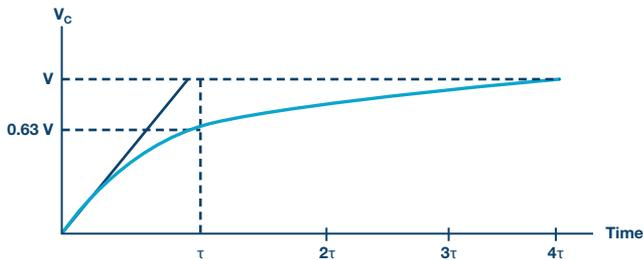
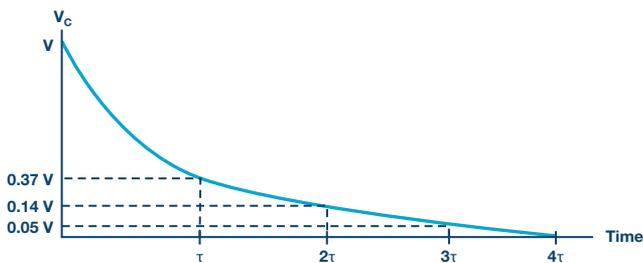

Figure 3. Capacitor charging for series RC circuit to a step input with time axis normalized by τ .
Figure 4. Capacitor discharging for series RC circuit.
The response curve increases and is shown in Figure 3.
Where V_0 is the initial voltage stored in capacitor at $t = 0$, and $RC = \tau$ is time constant. The response curve is a decaying exponential as shown in Figure 4.
- b. Pulse width = 5τ : Set the frequency such that the pulse width = 5τ (this should be approximately 45 Hz). Since the pulse width is 5τ , the capacitor should just be able to fully charge and discharge during each pulse cycle (see Figure 3 and Figure 4).